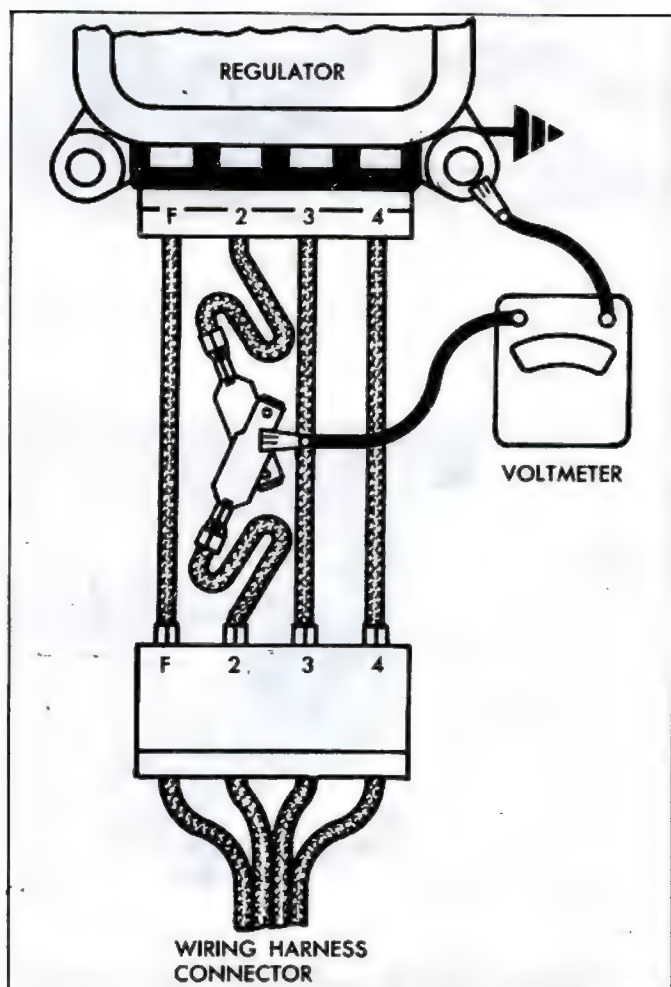

Fig. 10c—Checking Field Relay
1. Connect a voltmeter into the system at the regulator No. 2 terminal to ground (fig. 10c).